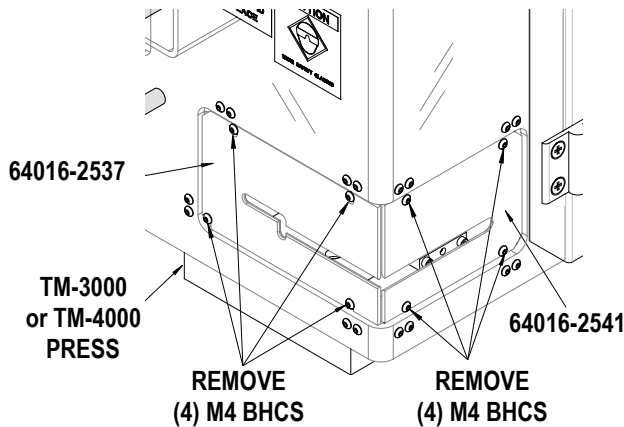

Figure 4-5
2. Remove the (4) M4 BHCS from the Front Guard (Order number 64001-2537) and the (4) M4 BHCS from Right Guard (Order number 64016-2541). See Figure 4-5.